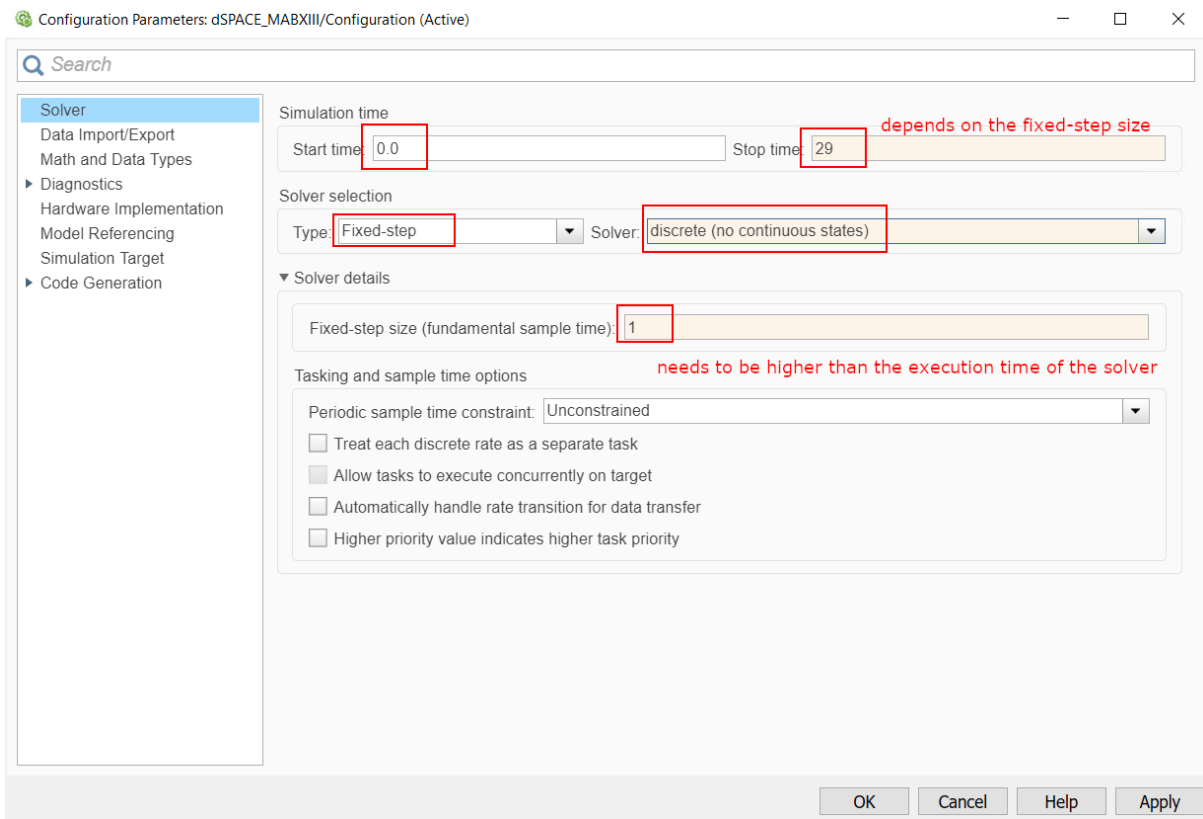

Figure 12.64: Set the Simulink solver options.
- 8) Access the Simulink model's options. In the "Solver" tab, set the options (see Figure 12.64):